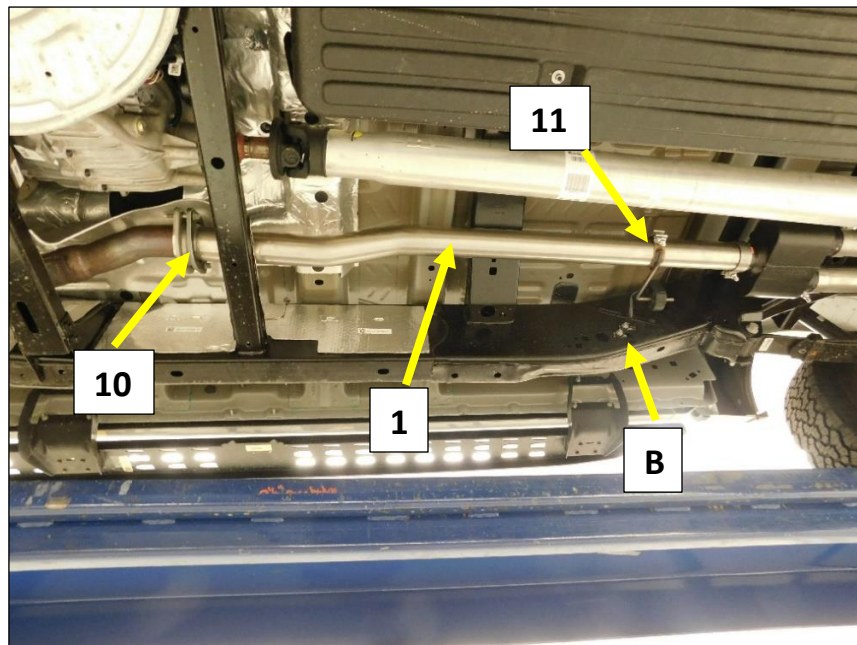

Figure 7
- Install the 2-bolt flange (10) on to the muffler inlet pipe (1) with the machined edge towards the flare. **Fig. 7**
- Install the muffler inlet pipe on to the Y-pipe using the bolts removed from the factory exhaust. **Fig. 7**
- Install the supplied clamp hanger (11) on to the muffler inlet pipe (1) and align with the frame hanger (B). Install the rubber isolator on to the hanger rods and tighten the clamp. **Fig. 7**